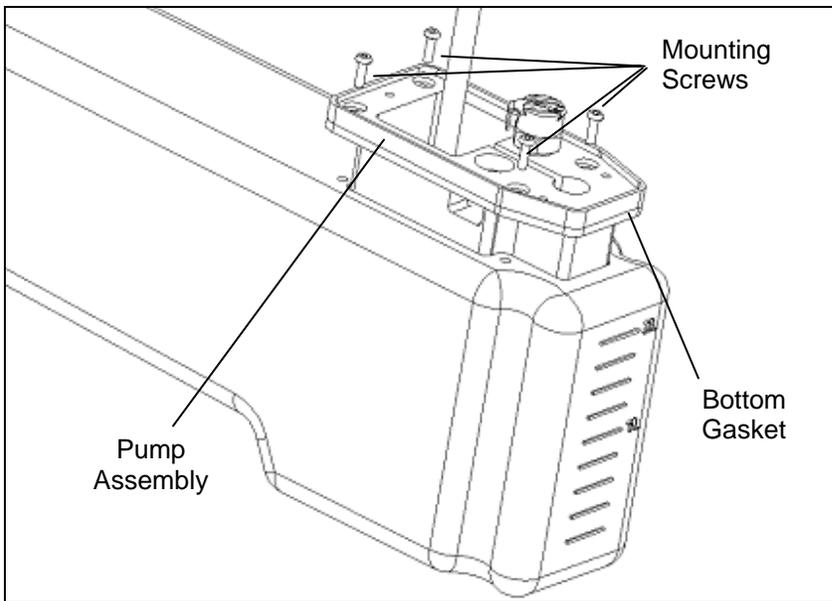

Figure 13-2 Dispense Pump Assembly
- 3 Peel off the internal gasket that was located between the pump assembly and the electrical cover. The pump assembly mounting screws are now accessible (Figure 13-2).